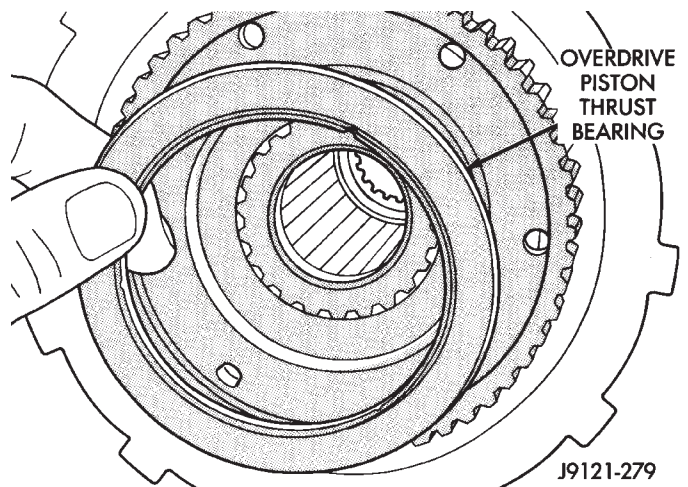

Fig. 4 Removing Overdrive Piston Thrust Bearing
(4) Remove overdrive piston thrust bearing from direct clutch hub (Fig. 4).